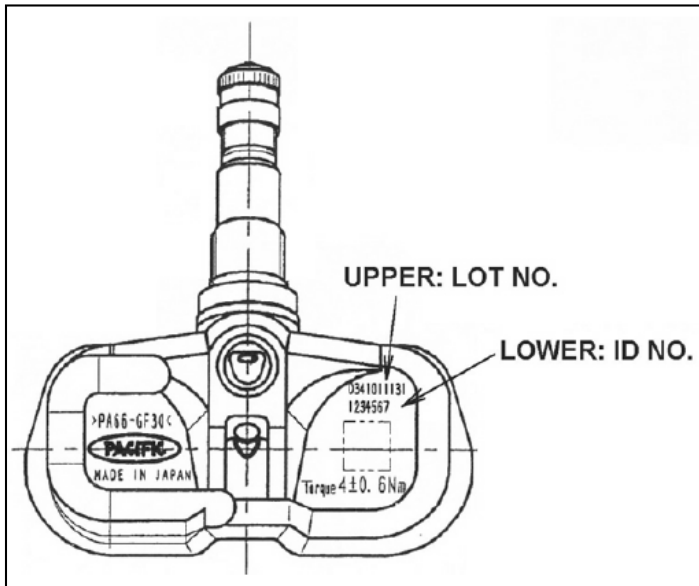

Figure 6a
- Insert the tire pressure monitor valve sub-assembly into the valve installation hole from the inside of the rim and bring the valve stem to the outside. Insert the tire pressure monitor valve sub-assembly so that Manufacturer's mark is visible. See Figure 6a and 6b.